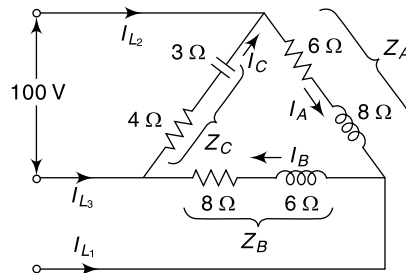

Fig. 4.28
4. For the unbalanced delta connected load shown in Fig. 4.28 find the phase currents, line currents and the total power consumed by the load.